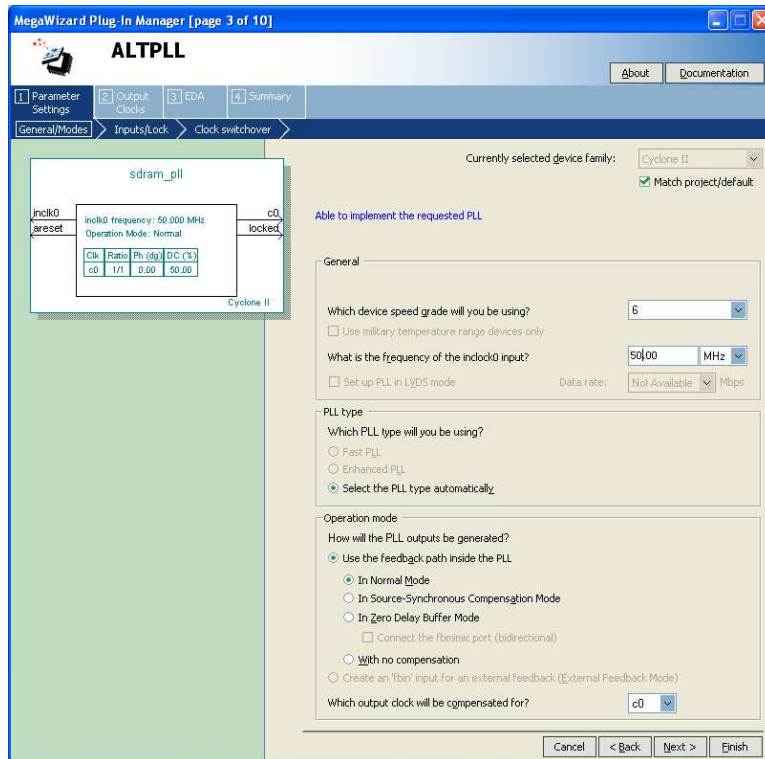
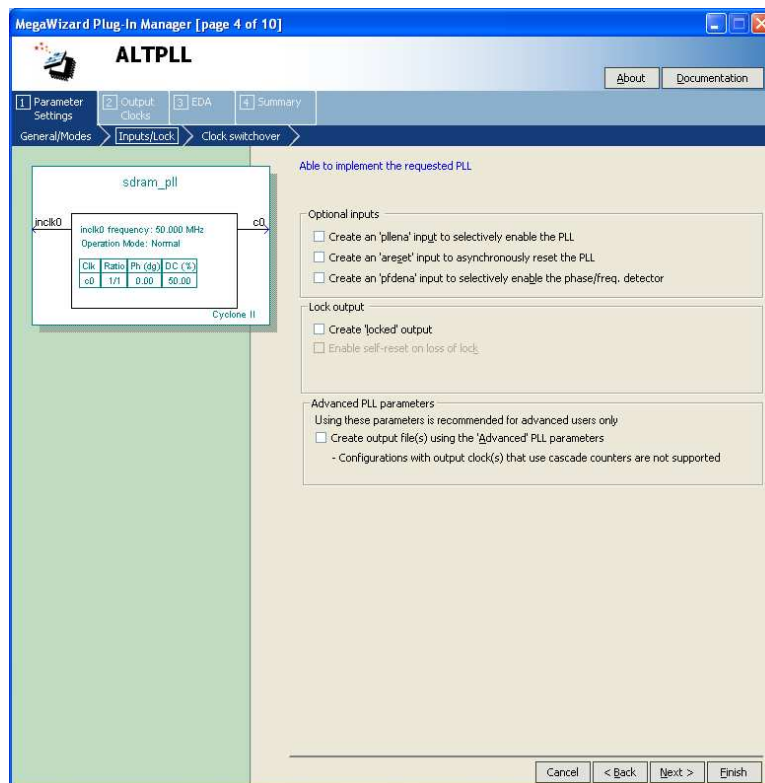

Figure 13. Define the clock frequency.
Figure 14. Remove unnecessary signals.
3. In Figure 13, specify that the frequency of the *inclk0* input is 50 MHz. Leave the other parameters as given by default. Click Next to reach the window in Figure 14.